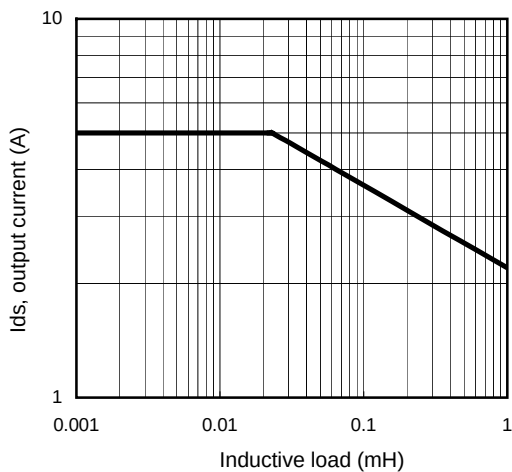

**Figure 11 – Max. output current (A)
(1) Higher inductance is possible if maximum load current is limited - see figure 11